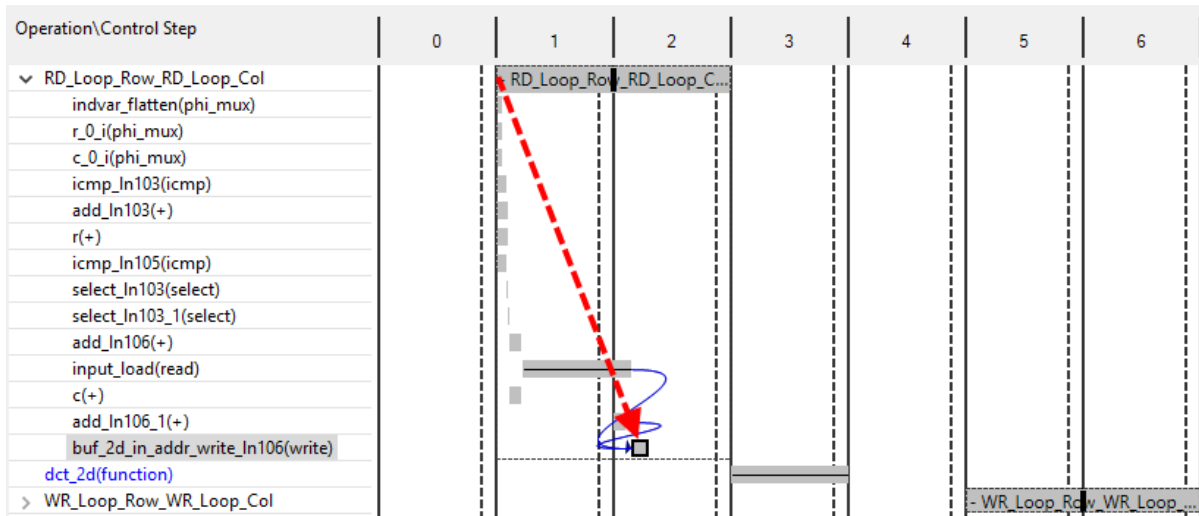

Figure 6-21: Analysis of DCT RD\_Loop\_Row
9. In the **Schedule Viewer**, expand the first loop in the design as shown in Figure 6-21, RD\_Loop\_Row\_RD\_Loop\_Col (these loops were flattened and the name is now a concatenation of both loops).
This loop is implemented in two states. The red arrow in Figure 6-21 shows the path from the start of the loop to the end of the loop: the arrow is almost vertical (everything happens in two clock cycles) and this loop is well implemented in terms of latency.